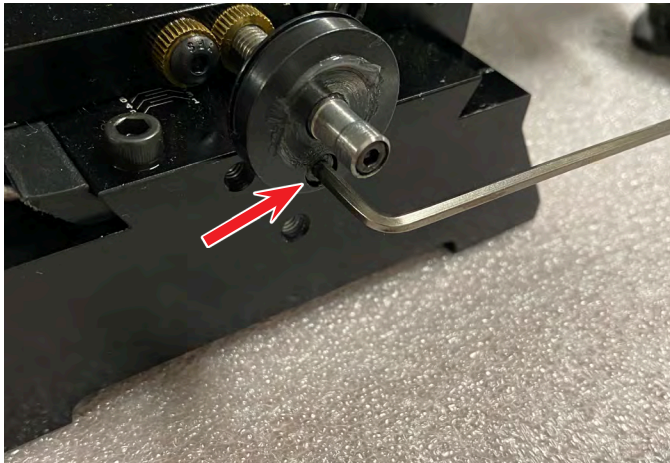

FIGURE 18
S. Once the collar is located in the middle of the play area, hold it in place, and then tighten the mounting screw (see Figure 18).